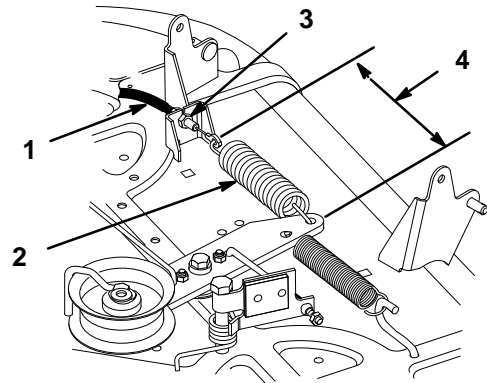

Figure 45
12. Engage blade control (PTO) lever on dash. Measure distance between hook ends of idler spring (Fig. 45). Adjust jam nuts so 6" (150 mm) dimension is obtained (Fig. 45).